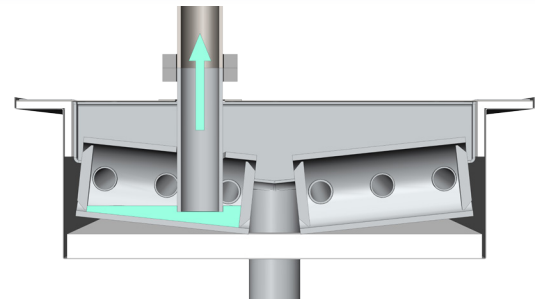

Figure 13
**Liquid Seal Hot Gas Drain Pan Loop:** In conventional hot gas drain pan designs, liquid refrigerant can flood the lower tubes in the drain pan hot gas loop, rendering them much less effective in heating the pan, and resulting in slow and uneven drain pan defrosting. Colmac Coil's trapped outlet design ensures that condensed, liquid refrigerant is carried out of the pan ensuring fast, complete, and uniform heating of the pan during defrost. See Figure 13.